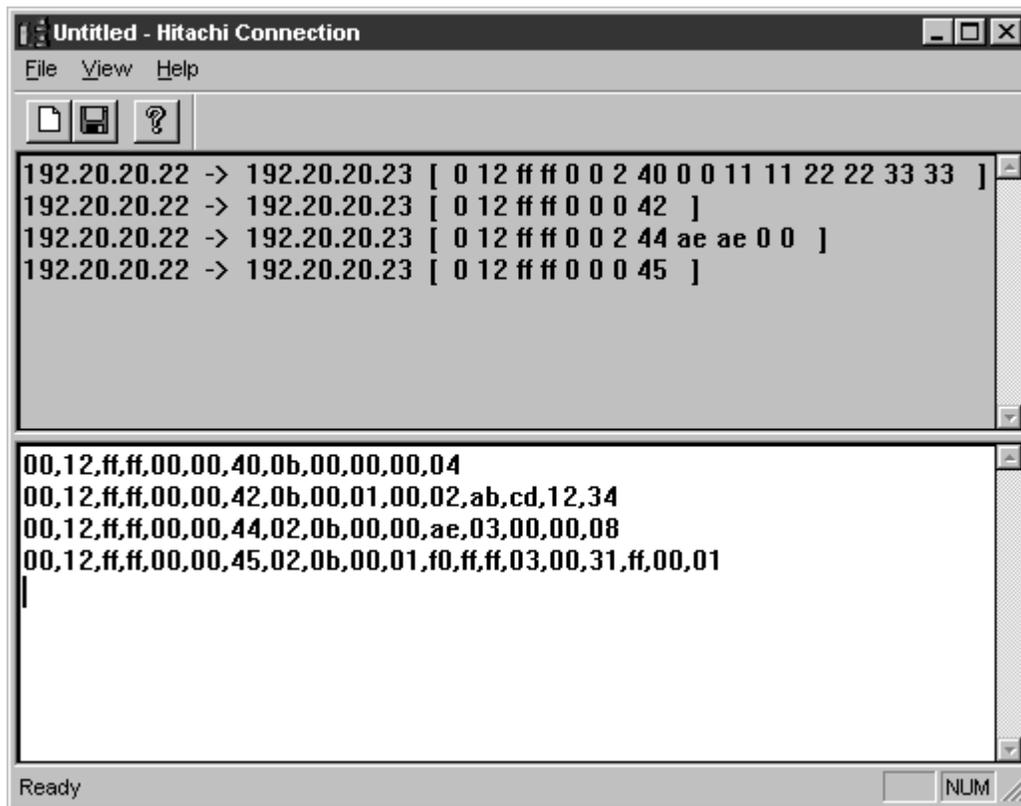

Figure 5.1 – Chatter Screen and Example
3. Start **Chatter.exe**. Set **Server Name** to ETN150 and **TCP/IP Port** to 21 (or 3004). Click **OK**. The screen in Figure 5.1 appears. If it does not, check your connections, configuration of the Ethernet card in the PC and HOSTS file.
Note: In this example, WL0=0000H, WL1=1111H, WL2=2222H, WL3=3333H, WLAE=AEAEH and L8=FALSE, which gives the returned values (responses) as shown in Figure 5.1.